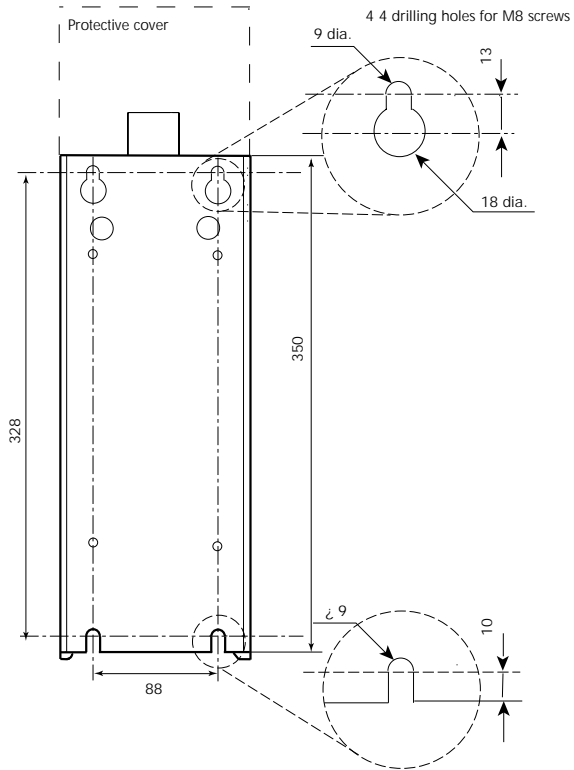

Figure 2-5 Drilling & mounting dimensions (mm) for TE10P controllers (125A to 400A rated units)
- Drill four holes in the support panel to the dimensional values given in Figure 2-5